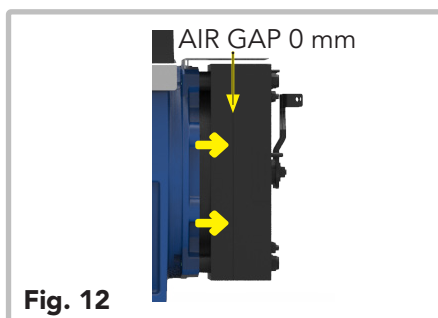

Fig. 12
- When the brake electromagnet is powered, it releases the brake disc (yellow arrows in Fig. 12); now the motor is released.